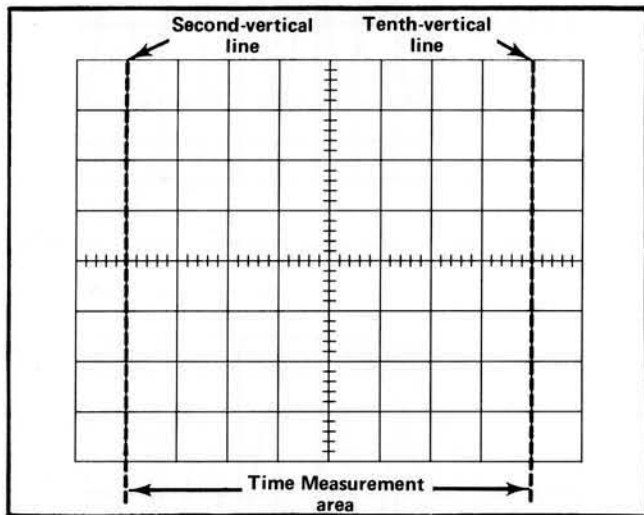

Fig. 2-7. Area of graticule used for accurate time measurements.
When making time measurements from the graticule, the center eight graticule divisions provide the most linear time measurements (see Fig. 2-7). Position the start of the timing area to the second vertical line and adjust the TIME/DIV OR DL'Y TIME switch so the end of the timing area falls between the second and tenth vertical lines.
5. Set the TIME/DIV OR DL'Y TIME switch to the fastest sweep rate that displays less than eight divisions between the time measurement points (see topic entitled Time Measurements and Fig. 2-7).